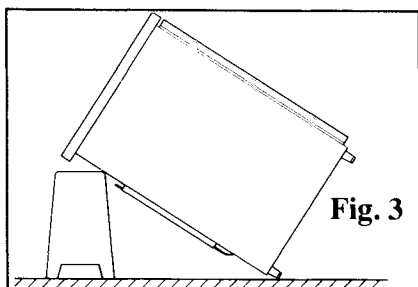

Fig. 3
1. Gently lay the appliance back, with the top raised at least 30cm (12") from the floor (use a stool or something similar). Use a towel or cloth at the base of the appliance to protect the side panels and the floor from damage. Do NOT support the appliance on the rear ventilation grill (See Fig. 3 for correct positioning).